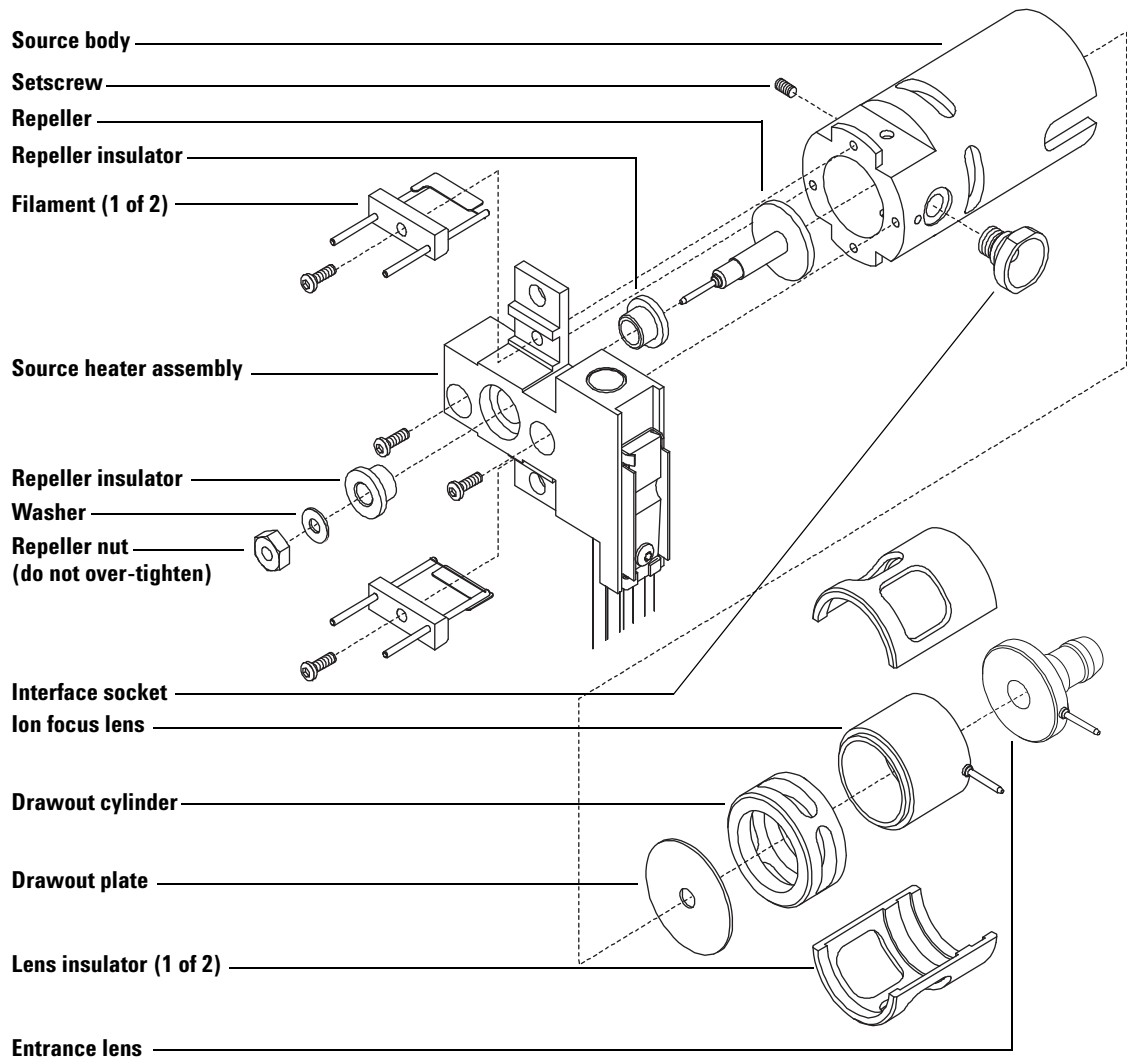

Figure 14 Assembling the ion source
- 1 Slide the drawout plate and the drawout cylinder into the source body (Figure 14).